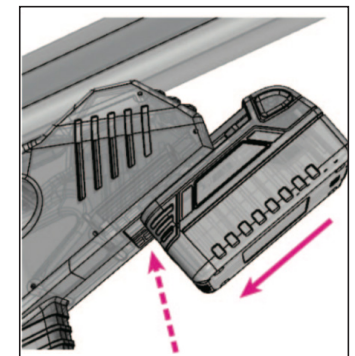

FIGURE 3
2. Slide battery into slot on the front of the down tube of the electric balance bike. [Figure 3]